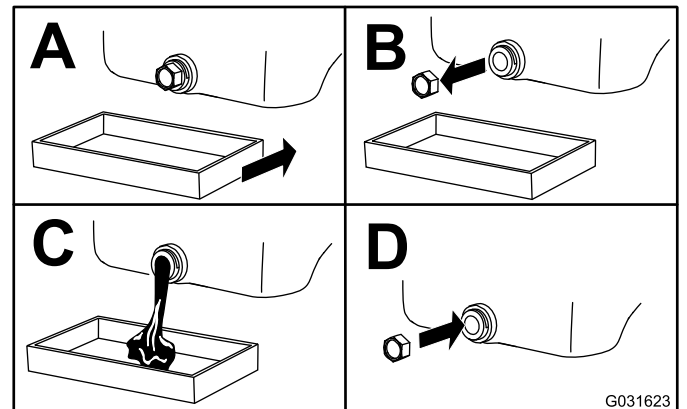

Figure 22
- A. Remove the drain plug and allow all of the existing oil to drain out of the engine (Figure 22).
B. Install the drain plug (Figure 22). Torque the plug to 13.6 N·m (10 ft-lb).